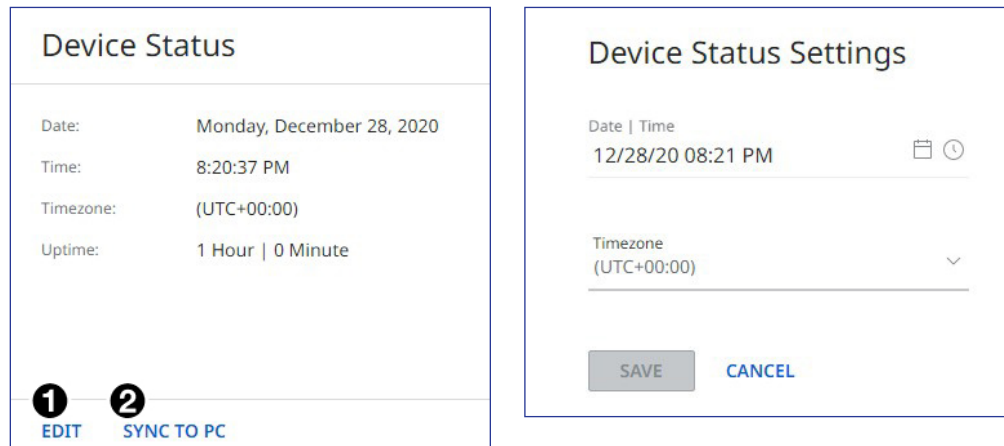

Figure 35. Device Status Panel
1. Click **EDIT** (see figure 35 [left], ❶) in the **Device Status** panel. The **Device Status Settings** panel opens to allow edits (right).